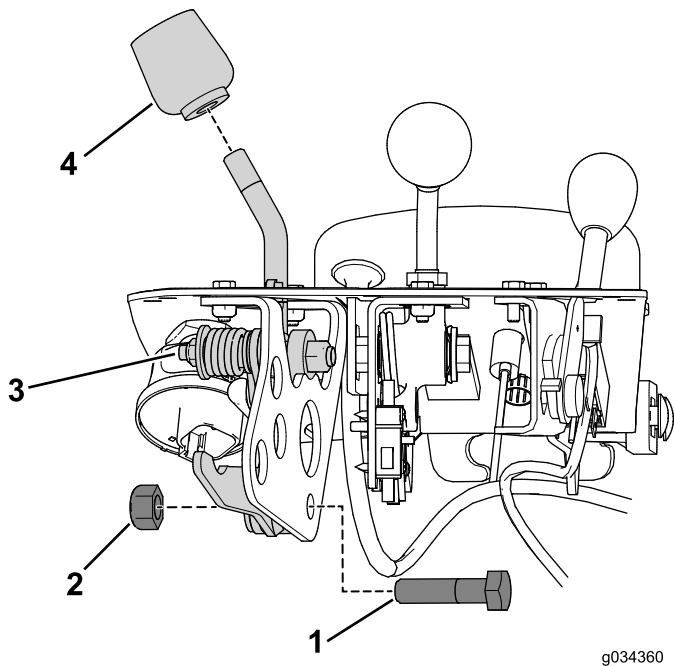

Figure 8
6. Remove the knob from the function lever (Figure 8).
7. Remove the bolt and nut that secures the function-lever assembly to the function-lever bracket (Figure 8).